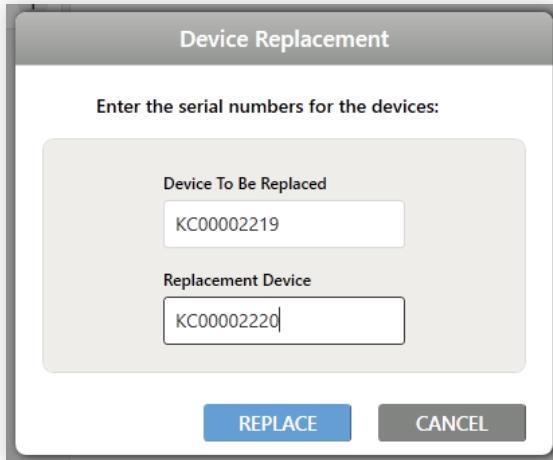

fig. 127
- 2 Input the serial numbers of the old device and the new one. As in fig. 127, you have to enter the serial number of the old device, even if you have renamed it in Design Studio.